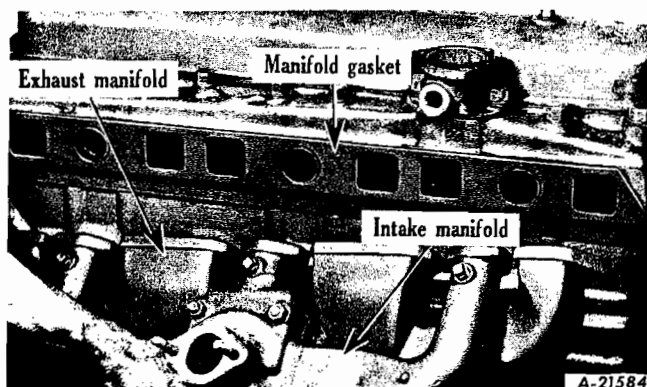
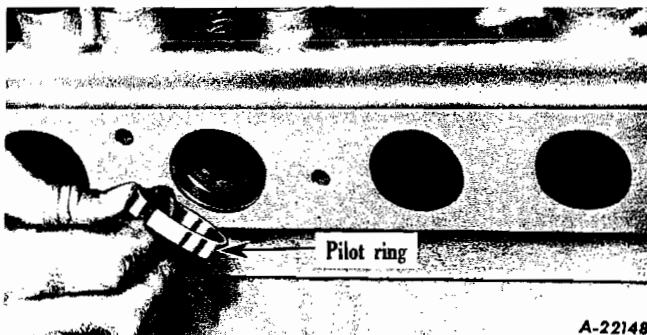

Fig. 24 - Removing intake and exhaust manifold.
Fig. 25 - Pilot rings are used to hold the intake manifold in alignment and should always be reinstalled.
1. After removing the eight capscrews from head and three bolts from exhaust flange, remove both intake and exhaust manifolds as a unit (Fig. 24). Remove three manifold pilot rings (Fig. 25). NOTE: Let manifolds cool before starting above operations; this will help to prevent manifold warpage.